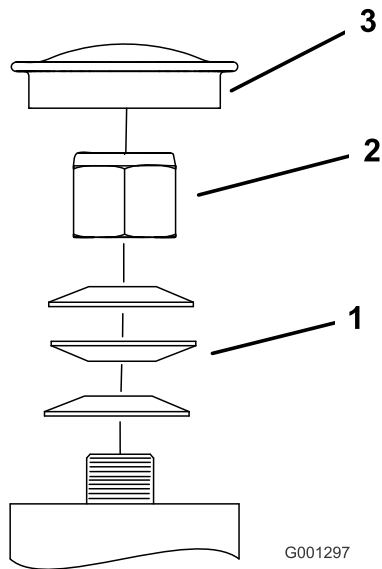

Figure 57
3. Remove the dust cap from caster and tighten lock nut (Figure 57).
4. Tighten the locknut until the spring washers are flat and then back off a 1/4 turn to properly set the pre-load on the bearings (Figure 57).
Important: Make sure the spring washers are installed correctly as shown in Figure 57.
5. Install the dust cap (Figure 57).